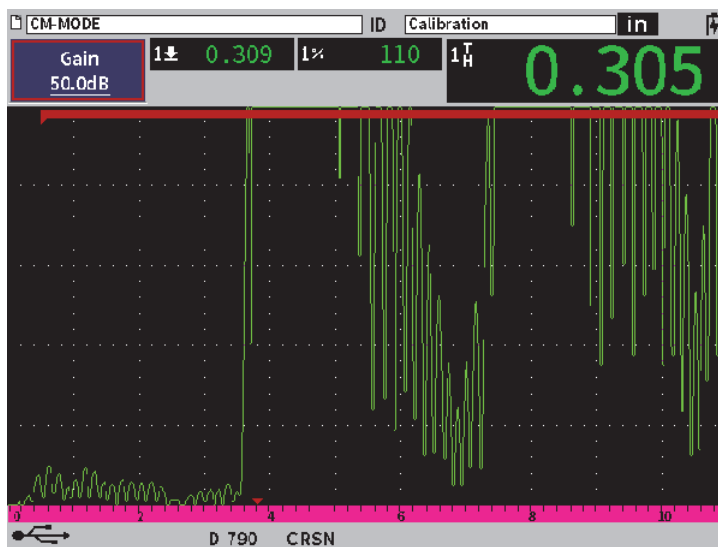

Figure 11-39 Adjust gain value in precision mode
3. Select **Gain** and turn the adjustment knob to adjust the gain value (see Figure 11-39 on page 220).